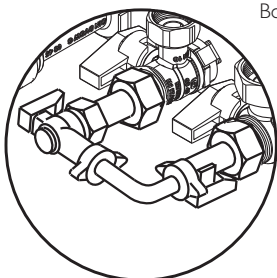

Fig. 2
2. It may be necessary to repressurise the system occasionally (as Fig. 2 or E1 18 displayed). A filling device (the filling loop) will be fitted on the system. This will be on the boiler itself, or on pipework near to the boiler.